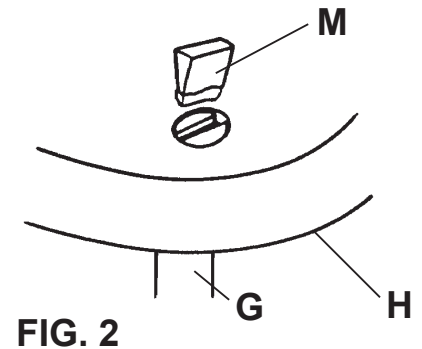

FIG. 2
After the back is in place, put a little glue on the tapered ends of the Wood Wedges (M) and pound them into the slots in the bottom of the Backposts (G) as shown in FIGURE 2.